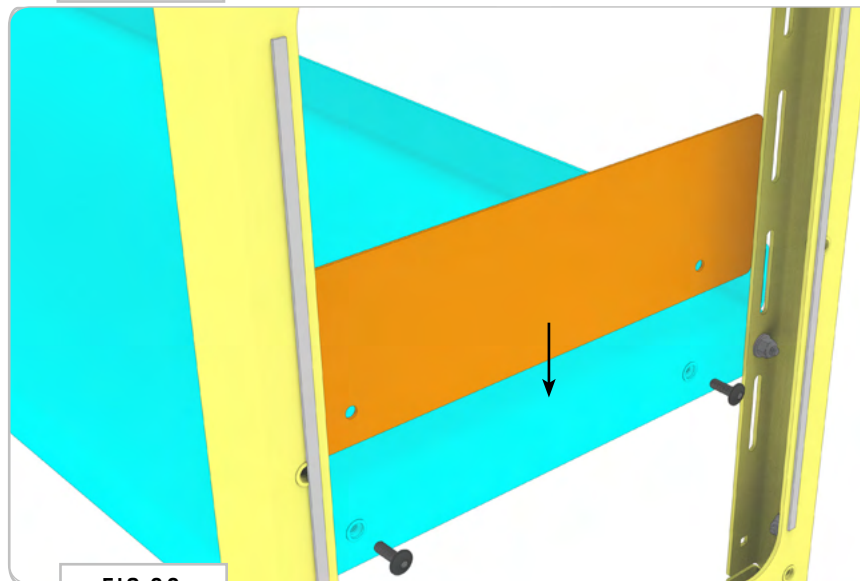

FIG 30
2.12 Install Shelf Side Plates: Attach the **Shelf Side Plates** to the pre-threaded holes of the **Cabinet Shelf Assembly** using (2ea) 1/4-20 x 0.75 Flanged Button Head Screws (FIG 30).